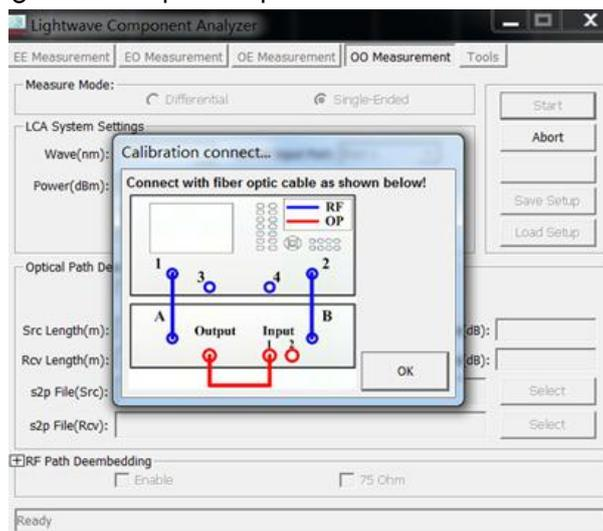
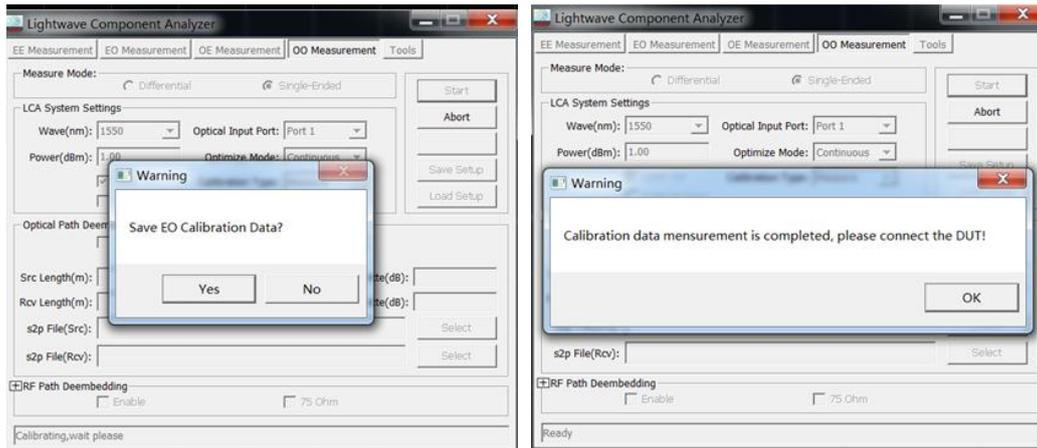

Figure 4.29 Optical test - optical path calibration
Figure 4.31 Optical Calibration completion Figure 4.30 Optical saving calibration data
- 13) After the optical source is stable (the optical module hardware parameters are set waiting), a dialog box is displayed, as shown in Figure 4.29. Use a standard fiber jumper to connect the optical output port and optical input port 1 as prompted. Click OK to calibrate the optical path. The Save EO Module Data dialog box is displayed (Figure 4.30), which enables you to save or cancel the saving of the calibration data of the EO conversion module. After the saving is complete, the dialog box shown in Figure 4.31 is displayed, indicating that the optical path calibration is complete.